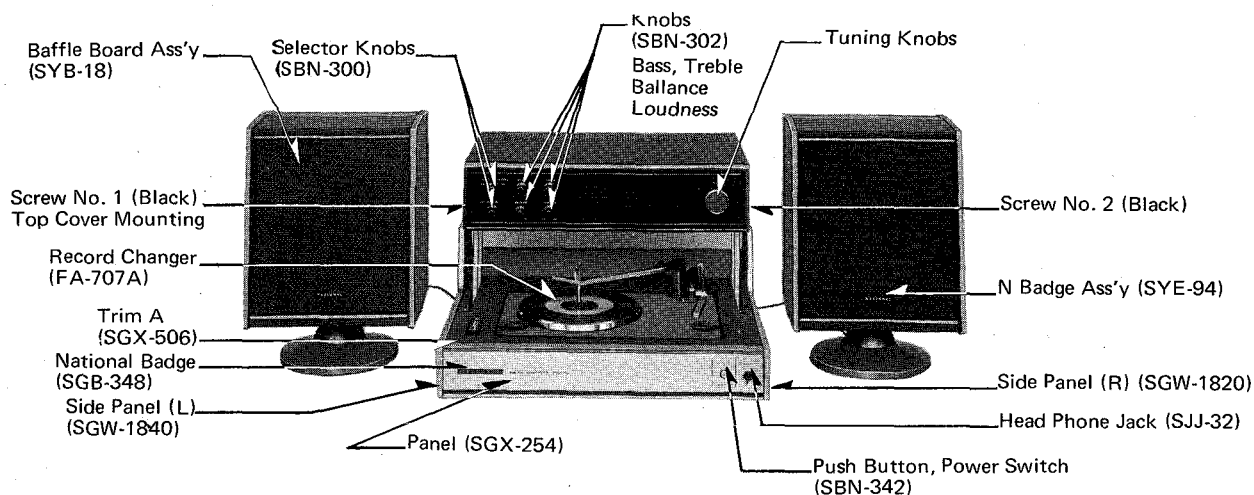

Fig. 1 FRONT VIEW
(Refer to Figs. 1, 2, 8 & 9)
1. Remove two (2) top cover mounting screws (left & right), Nos. 1-2, as shown in Fig. 1 on page 1.